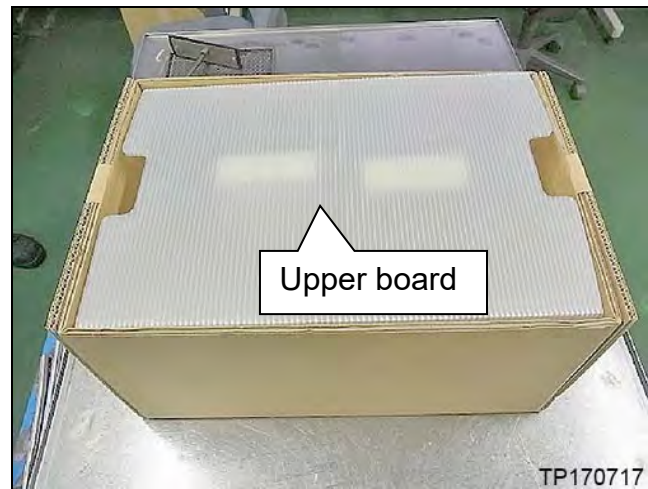

Figure 2N
- Packing material may be different then what is shown in Figure 2N.